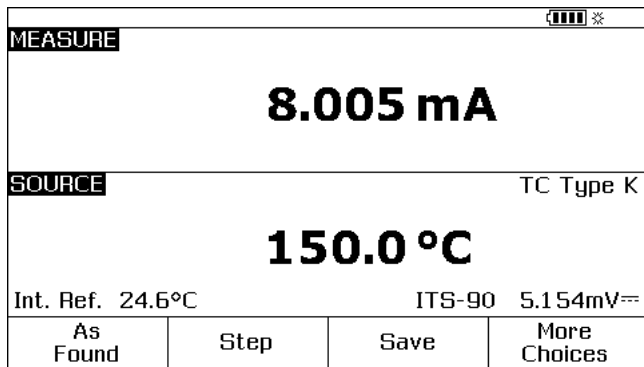

Figure 28. Process Instrument Calibration Screen
9. Push **MEASURE/SOURCE** for MEASURE/SOURCE mode. The display changes to the screen shown in Figure 28.